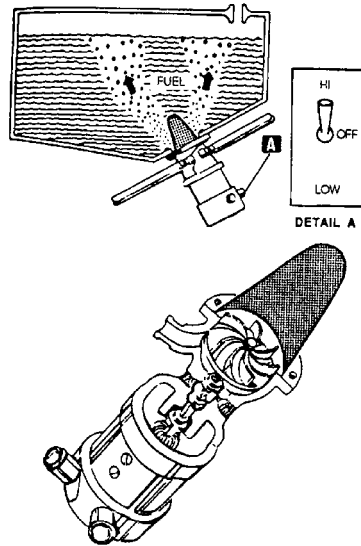

Figure 2-4. Auxiliary (Booster) Fuel Pump
(1) Auxiliary. The auxiliary (booster) pump is mounted at the tank outlet within a detachable sump, or is submerged in fuel at the bottom of the tank. The auxiliary pump, as shown in figure 2-4, supplies fuel under pressure to the inlet of the engine-driven fuel pump. This type of pump is an essential part of the fuel system, particularly at high altitudes, to keep the pressure on the suction side of the engine-driven pump from becoming low enough to permit the fuel to boil. This booster pump is also used to transfer fuel from one tank